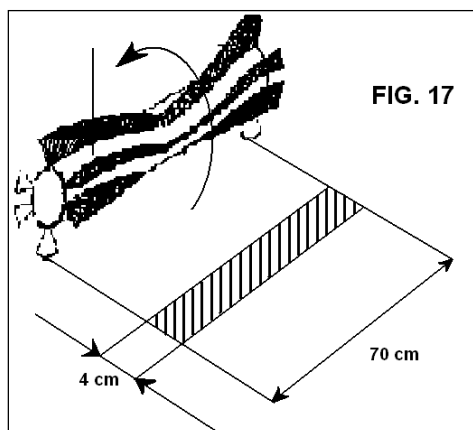

FIG. 17
- NASTĘPNIE WYŁĄCZYĆ SILNIK, PODNIEŚĆ SZCZ. CENTR. PO CZYM PRZESUNĄĆ RĘCZNIE MASZYNĘ OD MOMENTU AŻ ŚLAD SZCZOTKI NA POW.BĘDZIE WIDOCZNY, JAK WIDAĆ NA RYS. 17.
- 4 - ŚCIĄGNĄĆ SZCZOTKĘ CENTRALNĄ(PUNKT 113- TABELA 1) PO CZYM ZAŁOŻYĆ NOWĄ ZWRACAJĄC UWAGĘ NA ZŁOŻENIE WŁOSIA(PATRZ RYS.17)ORAZ NA PROWADNICE DWÓCH WSPORNIKÓW SZCZOTKI- PUNKT 128 I 64(TABLICA 1) W MIEJSCU UMIESZCZENIA SZCZOTKI CENTRALNEJ PUNKT 113-TABELA 1